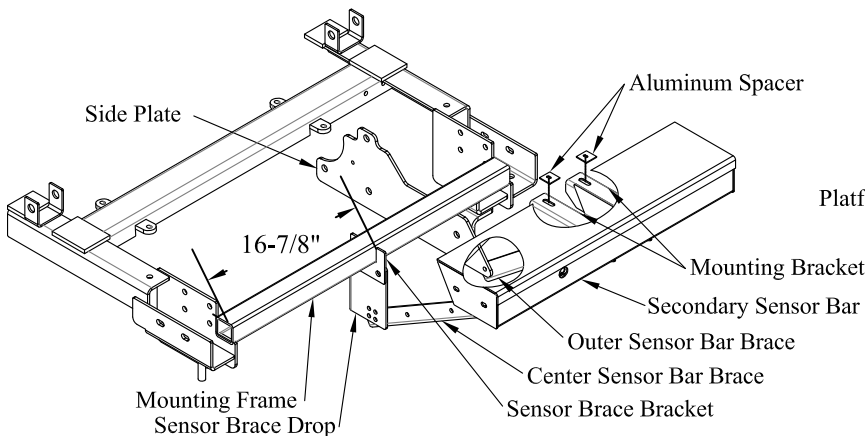

Figure 3: Secondary Sensor Bar.
2. **Bolt** the sensor brace drop to the mounting frame using provided 1/2" bolts, washers, lock washers, and nuts (Figure 3).
3. **Bolt** the mounting brackets of the secondary sensor bar to the under side of the van using mounting hardware from the bumper and provided aluminum spacers as needed (Figure 3).
4. **Bolt** the outer sensor bar brace between the liftgate side plate and secondary sensor bar using provided 3/8" bolts, washers, lock washers, and nuts (Figure 3).
5. **Bolt** the center sensor bar brace between the sensor brace drop and secondary sensor bar using provided 3/8" bolts, washers, lock washers, and nuts (Figure 3). Make sure secondary sensor bar is level.